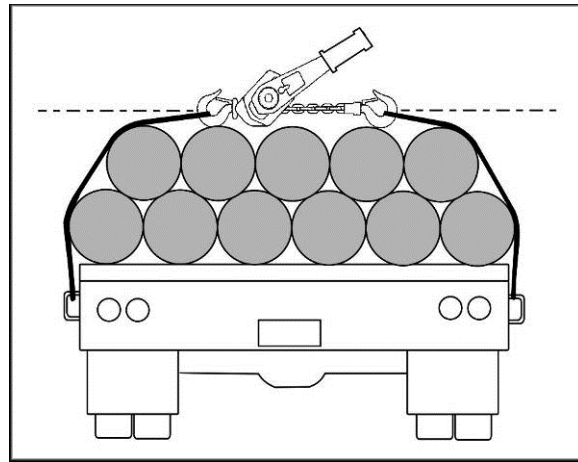

Figure 7
- When connecting to a wire rope sling, the lever hoist must be applied along a straight line parallel to the surface on which it is resting. See Figure 7.